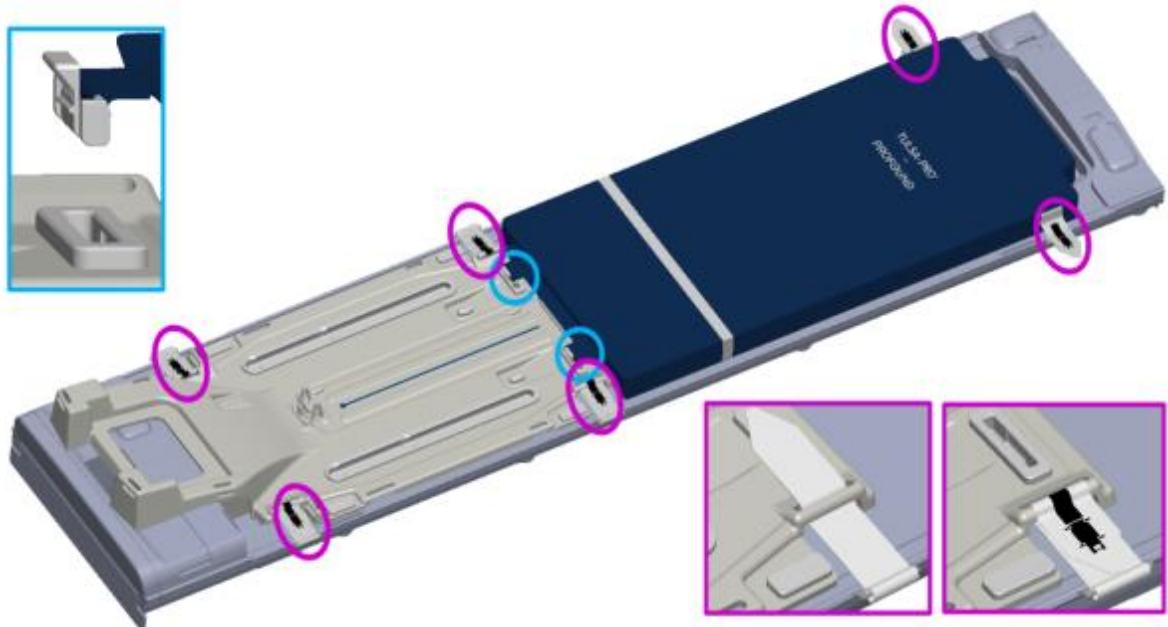

Figure 2: Securing the base plate and patient pad to the MRI bed
1. MRI Technologist Attach the base plate onto the foot end of the MRI table and secure using the four base plate straps (*Figure 2*, your configuration might not match exactly as shown). The feet of the base plate should fit in the rails of the MRI table and not move around when in position.
2. Place the patient pad on the MRI table and secure it using the provided straps shown in (Figure 2, your configuration might not match exactly as shown).
5.a.ii Preparing a Work Surface and Connecting the Positioning System (PS)